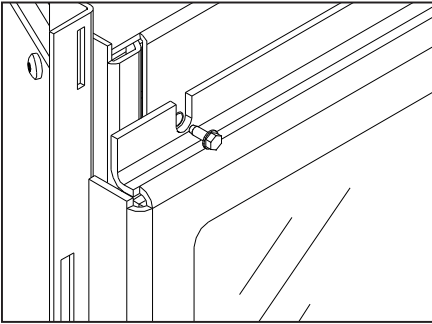
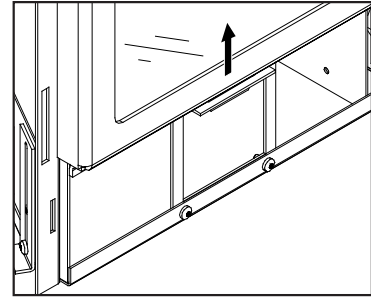

Figure 8: Top bolts for glass door.
Figure 9: Bottom hooks for glass door.
Open the door by removing the two (2) $\frac{5}{16}$ " bolts located at the top outside corners of the glass frame (see Figure 8). Lift the bottom of the door up and remove from unit (see Figure 9).